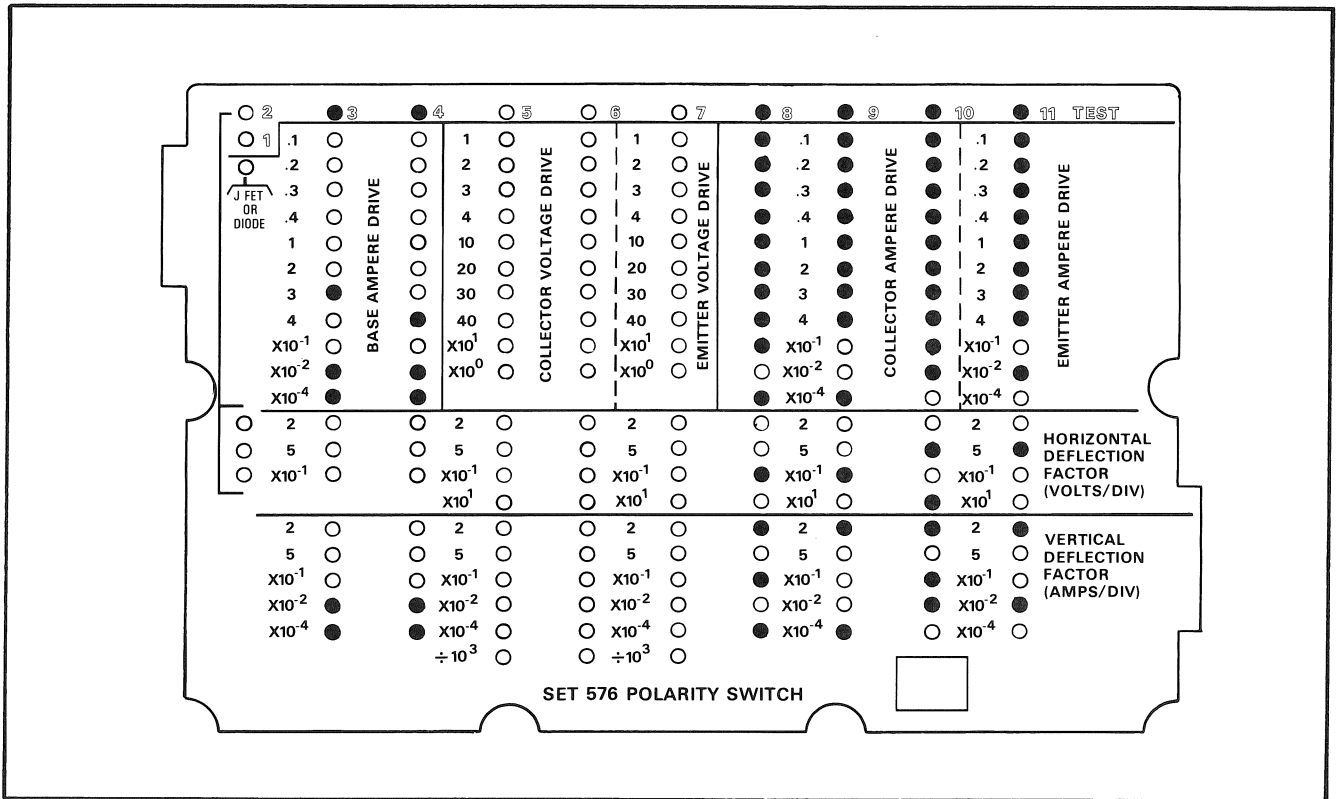

Fig. 5-13. Program 13.
f. Install a card containing program 13 (Fig. 5-13) in the card reader. Program 13 tests should be made four times, at